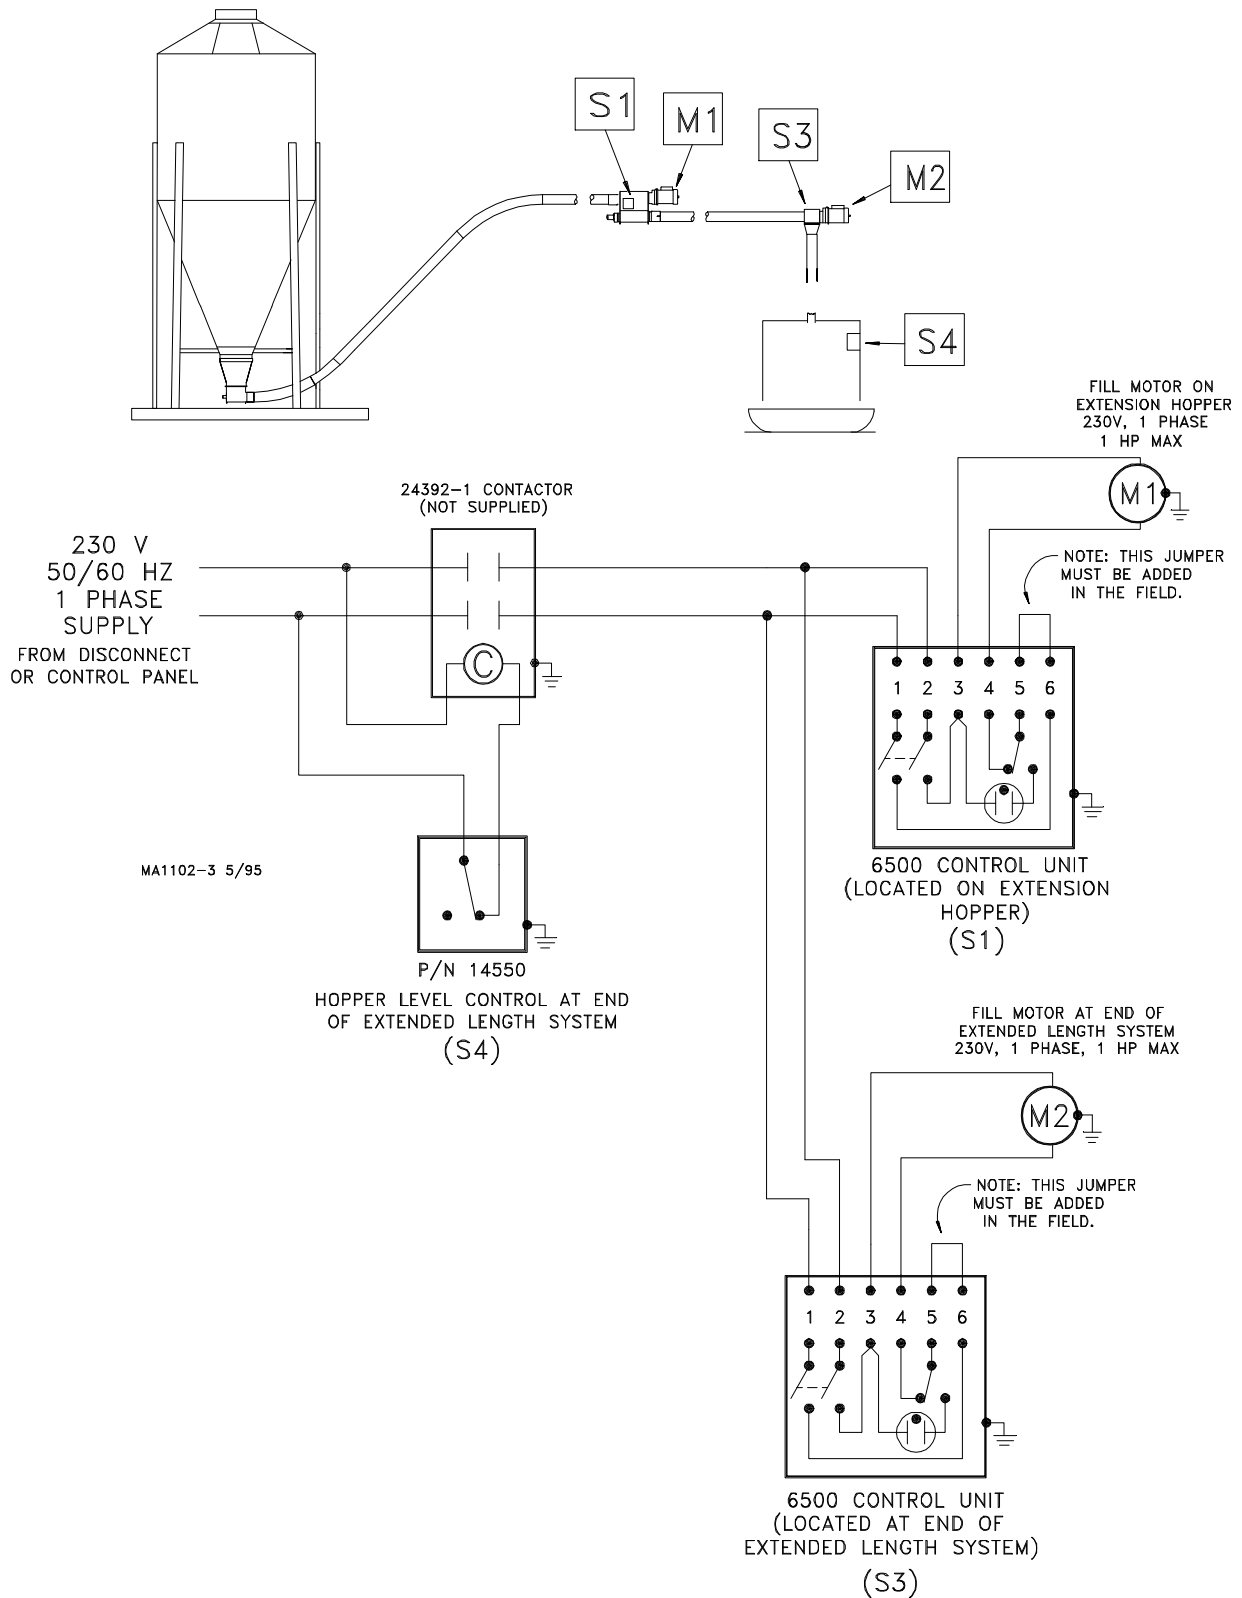

**Figure 1.**
2. Remove the plastic drop from the bottom of the control unit housing. Re-use the hardware to install the 7856 Adapter Plate to the control unit housing. See Figure 1.